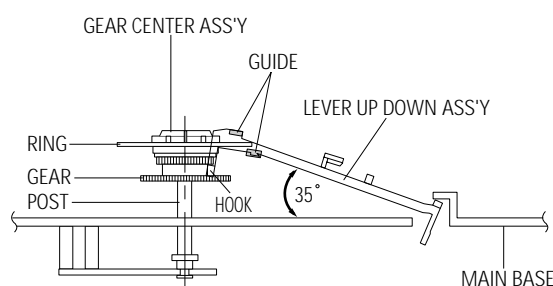

Fig. 4-27 Lever Up Down Ass'y Removal
- 1) Insert the Lever Up Down Ass'y ❶ in the rectangular holes on Main Base as shown in Fig 4-27.
- 2) Lift the Lever Up Down Ass'y ❶ about 35 degree.(Refer to Fig 4-27)
- 3) Insert Ring of the Gear Center Ass'y ❷ in the Guide of the Lever Up Down Ass'y ❶.
- 4) Insert the Gear Center Ass'y ❷ in the post on Main Base.
- 5) Push down the Lever Up Down Ass'y ❶ for locking of the Hook.